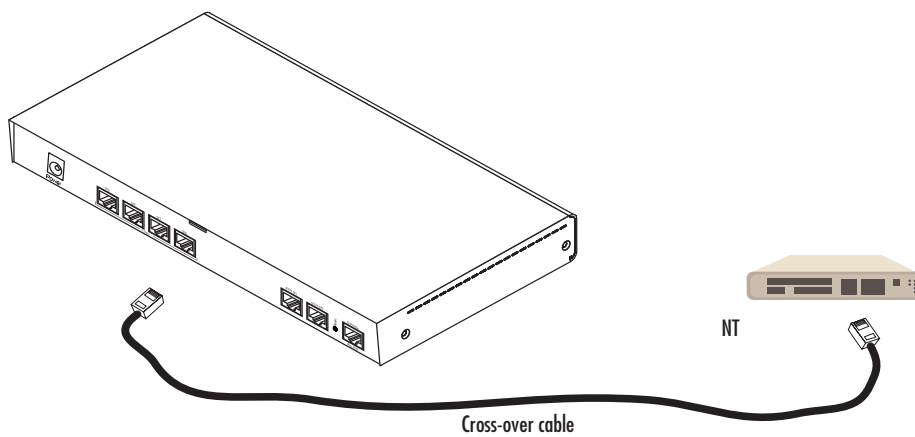

Figure 13. Connecting an E1 PRI port to an NT1
The E1 PRI is usually connected to a PBX or switch—local exchange (LE). Type and pin outs of these devices vary depending on the manufacturer. In most cases, a straight-through RJ-45 to RJ-45 can be used to connect the PRI with a PBX. A cross-over cable is required to connect to an NT device, as illustrated in Figure 13 on page 52.